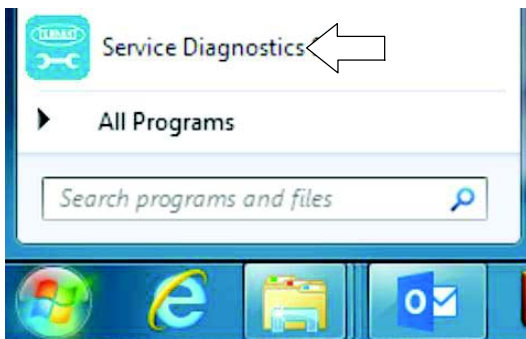
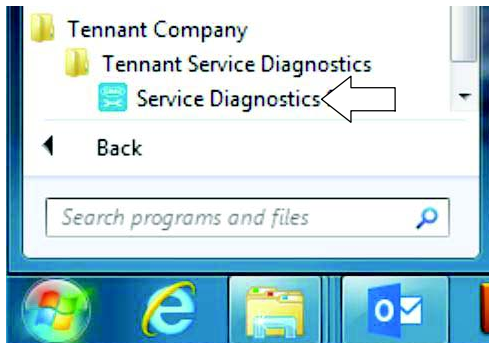

FIG. 12
FIG. 13
1. Access the software through either the desktop icon or the Start Menu. The software application is titled “**Service Diagnostics**”. (Fig. 11 / Fig. 12 / Fig. 13)